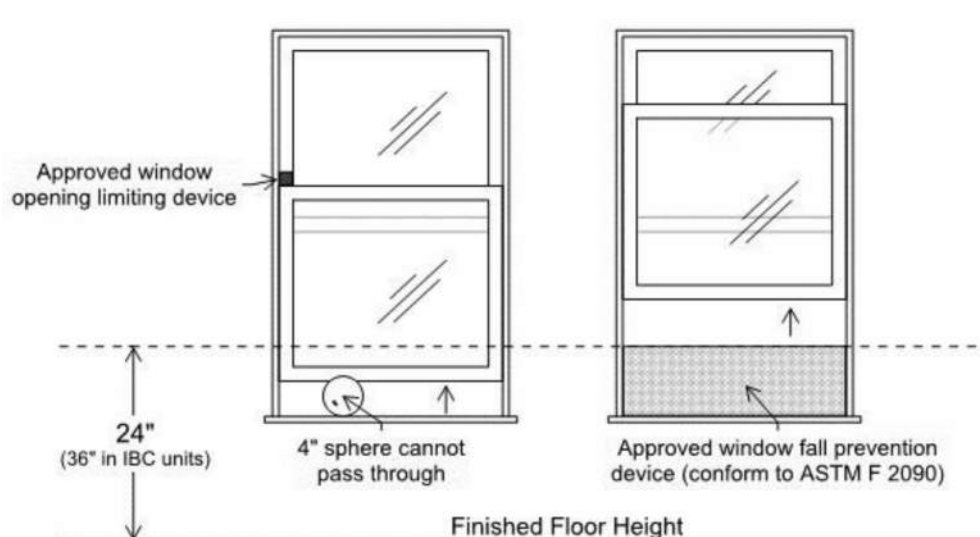

Figure 2: Window fall protection
- Operable windows with openings that, when in their largest opened position, will not allow the passage of a 4-inch sphere (see Figure 2).
- Operable windows that are provided with opening control or fall prevention devices that comply with ASTM F 2090 (see Figure 2) (IBC 1015.8.1).
- In dwelling units regulated by the IBC where the sill height of an operable window above exterior finished grade is more than 75 feet, provide window fall prevention devices complying with ASTM F 2006 (see Figure 2).